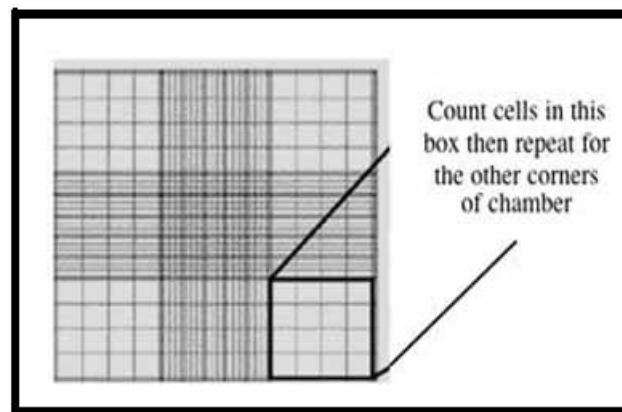

Figure 21 Diagram represent cell count using hemocytometer
- Counting ideally is conducted on all 4 squares illustrated in Figure 21.